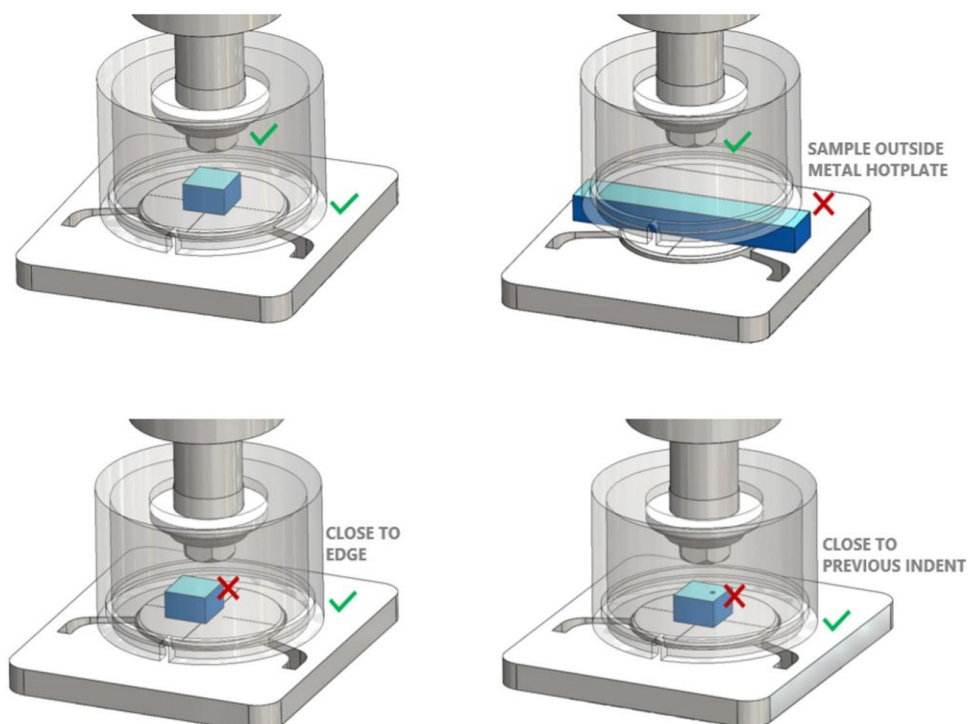

Figure 3.7 Sample Placement guide
Figure 3.7 shows some of the considerations when placing a sample on the PLX-HotStage:
Position the crosshead at a suitable height and place the profilometer calibration sample provided by PLX on the platen, as described in Figure 3.7. The indent should be located (very approximately) on the indentation axis. If this calibration sample is lost or damaged, please contact Plastometrex at support@plastometrex.com.
6. Move the profilometer so that it is above the indent – this is done with the appropriate arrows on screen. The profilometer tip should be positioned such that it is aligned with the centre of the indent in the x direction. This should be checked visually, looking through the workspace, as shown in Figure 3.7. When this is lined up close to the centre, use the y control to do the same in the y direction – this is less critical in terms of getting close to the indent, but an attempt should be made to get as close as possible. When this has been completed, click “Yes”.
1. Place the sample within the test space on the platen, as shown in Figure 3.7.